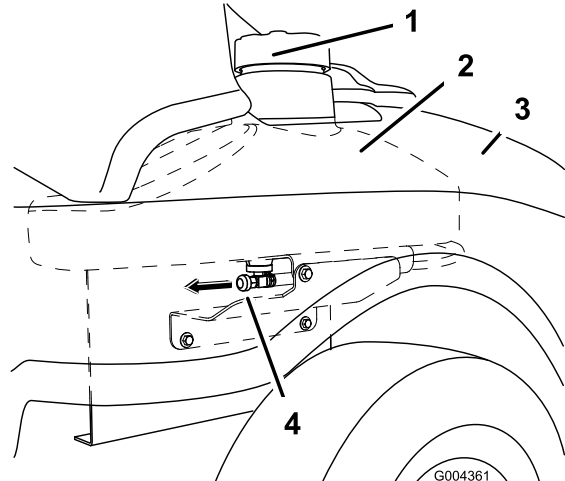

Figure 30
3. Close the fuel shut-off valve located under the front of the fuel tank (Figure 30).